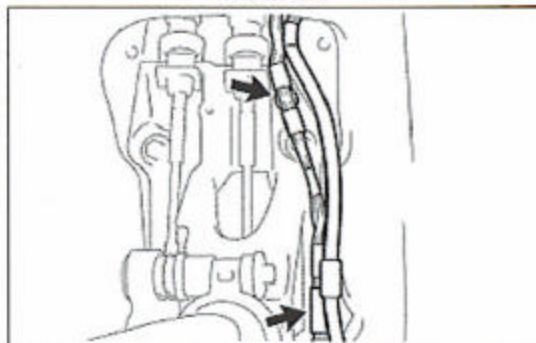

Figure 12
5. Replace the wire harness unclipped in Step 6 of the Removal Procedure on Page 2 (Figure 12).